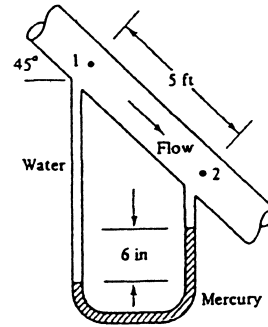

Fig. P2.44
**2.44** Water flows downward in a pipe at  $45^\circ$ , as shown in Fig. P2.44. The mercury manometer reads a 6-in height. The pressure drop  $p_2 - p_1$  is partly due to friction and partly due to gravity. Determine the total pressure drop and also the part due to friction only. Which part does the manometer read? Why?